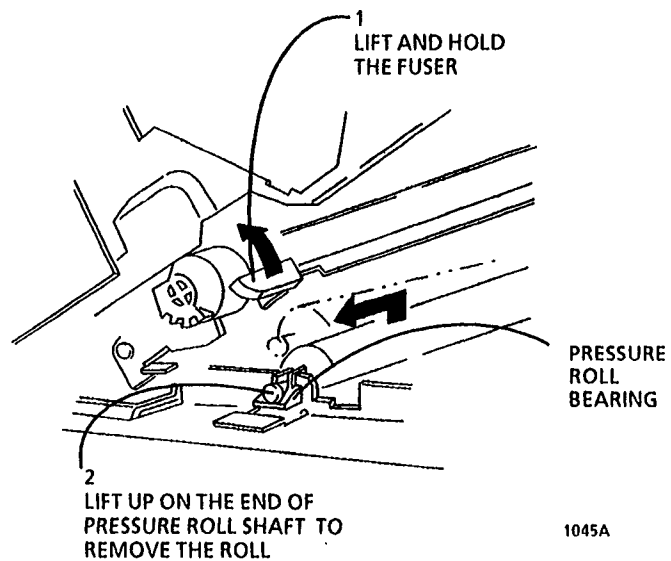

Figure 1. Removing the Pressure Roll
2. (Figure 1): Remove the pressure roll.